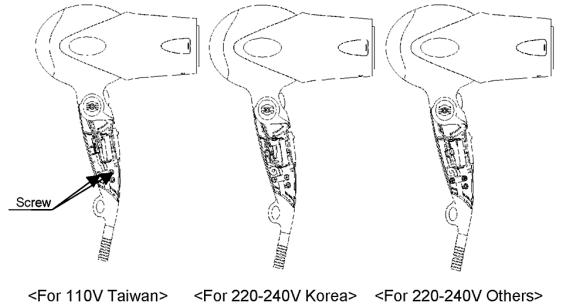

Figure 8
7. Install Power Cord, Bushing, High Low Switch plate, Select Switch and drive with 2 screws as shown in Figure 8.